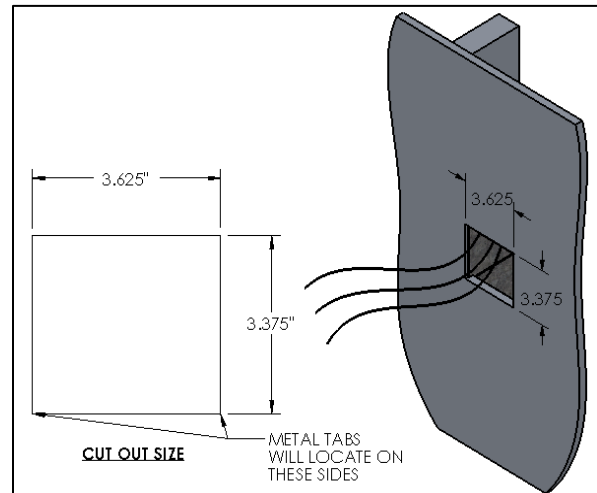

FIG. 12- J-BOX ASSEMBLY AND WALL CUT OUT
- Attach the desired wall (ceiling) covering and finish accordingly as shown in FIG. 12.